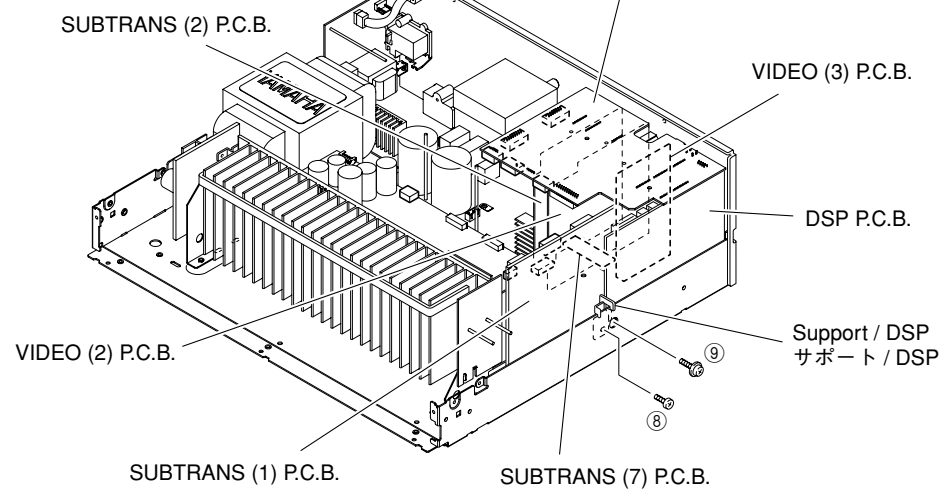

Fig. 3
**5. Removal of DSP, VIDEO (1)-(3) and SUBTRANS (1), (2), (7) P.C.B.s**
- Remove 1 screw (⑧) and 1 screw (⑨). (Fig. 3)
- Remove 26 screws (U, C models)/25 screws (R, T, K, A, B, G, E, L models) (⑩). (Fig. 3)
- Remove the DSP, VIDEO (1)-(3) and SUBTRANS (1), (2), (7) P.C.B.s. (Fig. 3)
**5. DSP, VIDEO(1)~(3)、SUBTRANS(1)、(2)、(7) P.C.B.の外し方**
- ⑧のネジ1本、⑨のネジ1本を外します。(Fig. 3)
- DSP、VIDEO(1)~(3)、SUBTRANS(1)、(2)、(7) P.C.B.を取り外します。(Fig. 3)
**6. Operation check of MAIN (2) P.C.B.**
- Remove 1 screw (⑧). (Fig. 3)